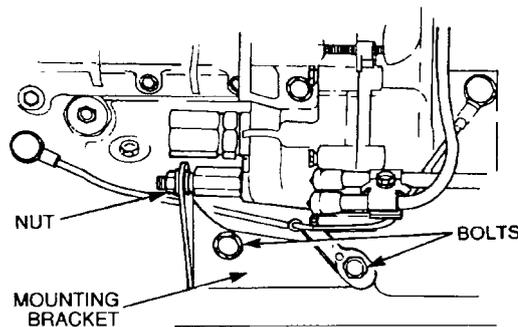

Figure 54 Installing the Injection Pump Rear Mounting Bracket
- ggg. Install the injection pump rear mounting bracket over the injection pump mounting adapter and onto the engine block. Install the nut and the retaining bolts together with new lock-washers (Figure 54).